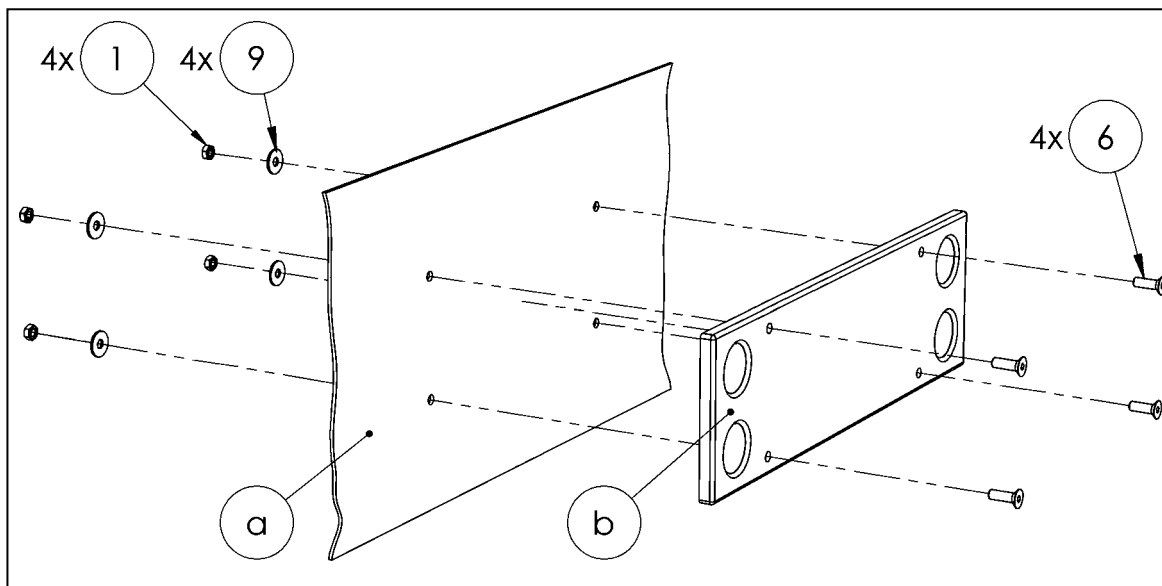
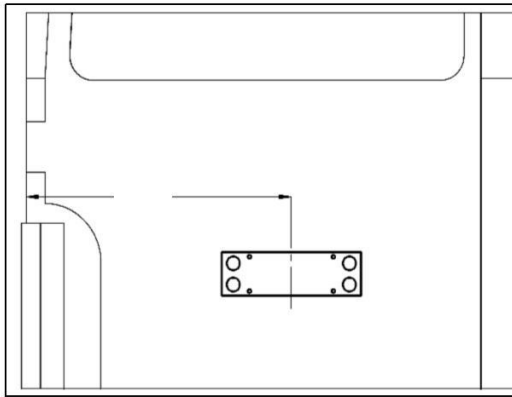

Figure 38
Figure 39
- Route the control panel cable to the cargo area so that it can be secured to the right-hand door (a). See Fig. 38.
- Secure the control panel (b) to the right-hand vehicle door (a) using the fasteners (1, 6, 9) from the accessories kit, maintaining a distance of 400 mm ±100 mm (15³/₄" ±3¹⁵/₁₆") as per specifications (see Fig. 38 and Fig. 39).